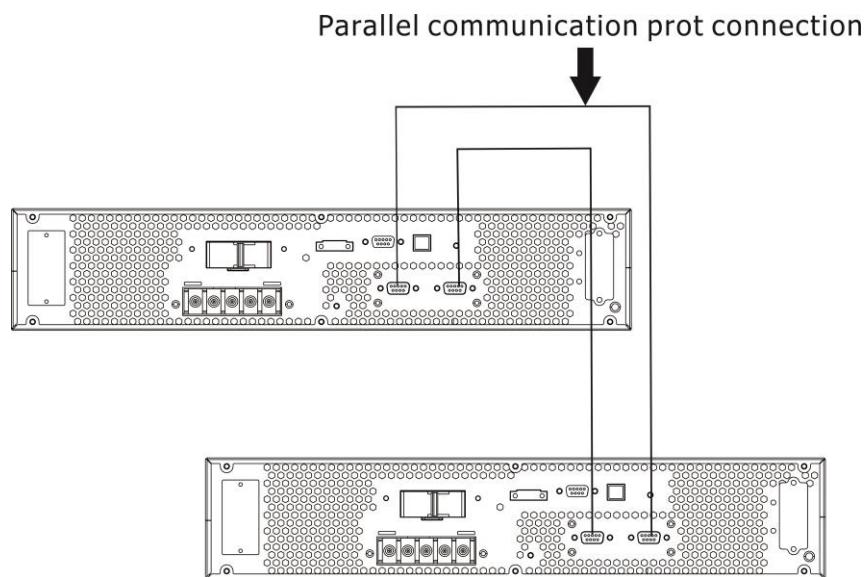

Figure 8: Wiring diagram of parallel system
5. Connect each UPS one by one with the parallel cable. Refer to Figure 8.